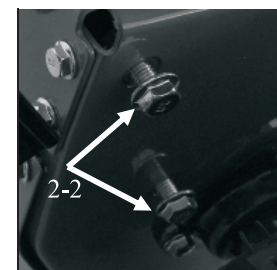

Fig. 2A
1. Remove temporary four mounting blots (2-2) on both sides of gear box before assemble lower handle. (Fig. 2A)